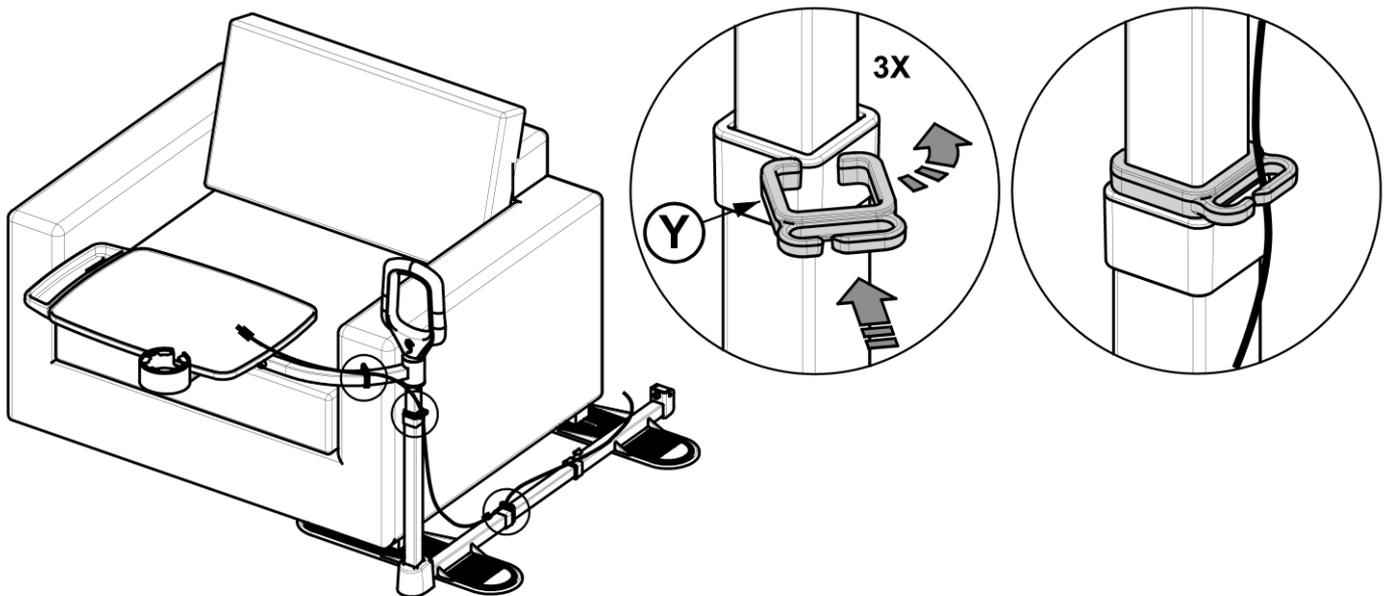

FIGURE 33
33. Optional POWER CORD CLIPS Y (3X) are provided. Firmly press POWER CORD CLIP onto corner of tube and rotate into any orientation. Suggested locations shown in *FIGURE 33*, however, clips can be installed wherever desired.